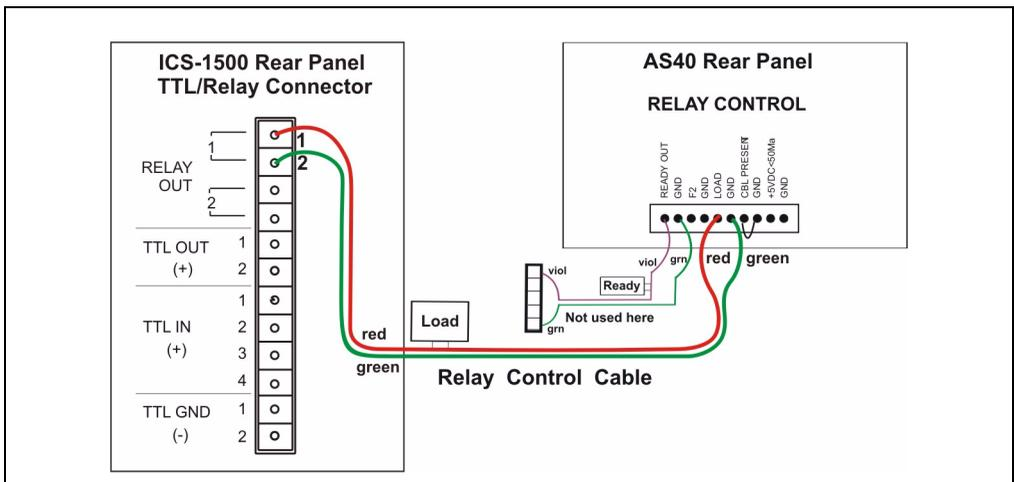

Figure B-45. Example AS40 Autosampler Connection
8. Connect the relay control cable's 10-position connector plug to the **RELAY CONTROL** connector on the AS40 rear panel (see Figure B-45).
9. Plug the 12-position connector plug into the **TTL** and relay connector on the ICS-1500 rear panel (see Figure B-45). Make sure the red wire connects to position 1 and the green wire connects to position 2.